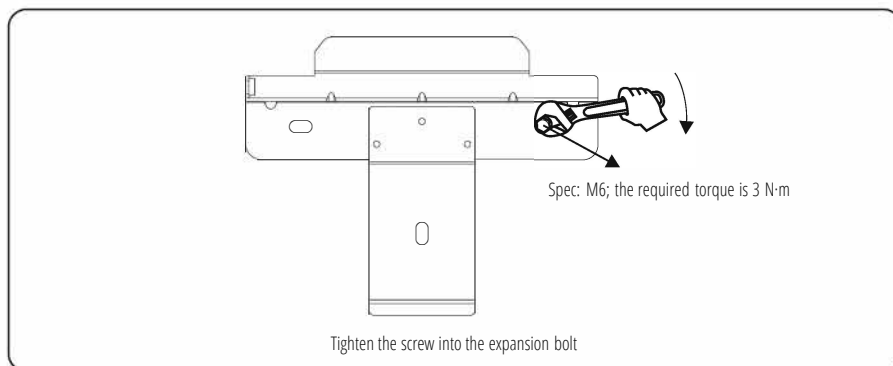

Figure 4.13 Securing a rear panel
Step 5 Align the rear panel with the holes, insert expansion bolts into the holes through the rear panel, and lighten the expansion bolts to a torque of 3 N-m using a torque wrench, as shown in Figure 4.13.